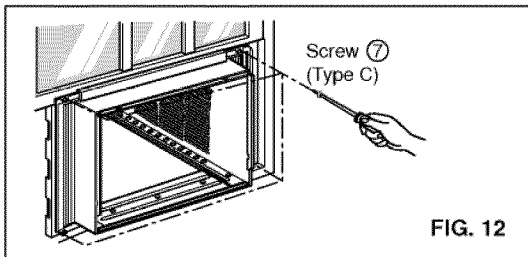

FIG. 12
**10** Expand side curtains to fill opening. Attach each side curtain to the window sash using (4) TYPE C screws (7). (FIG. 12)